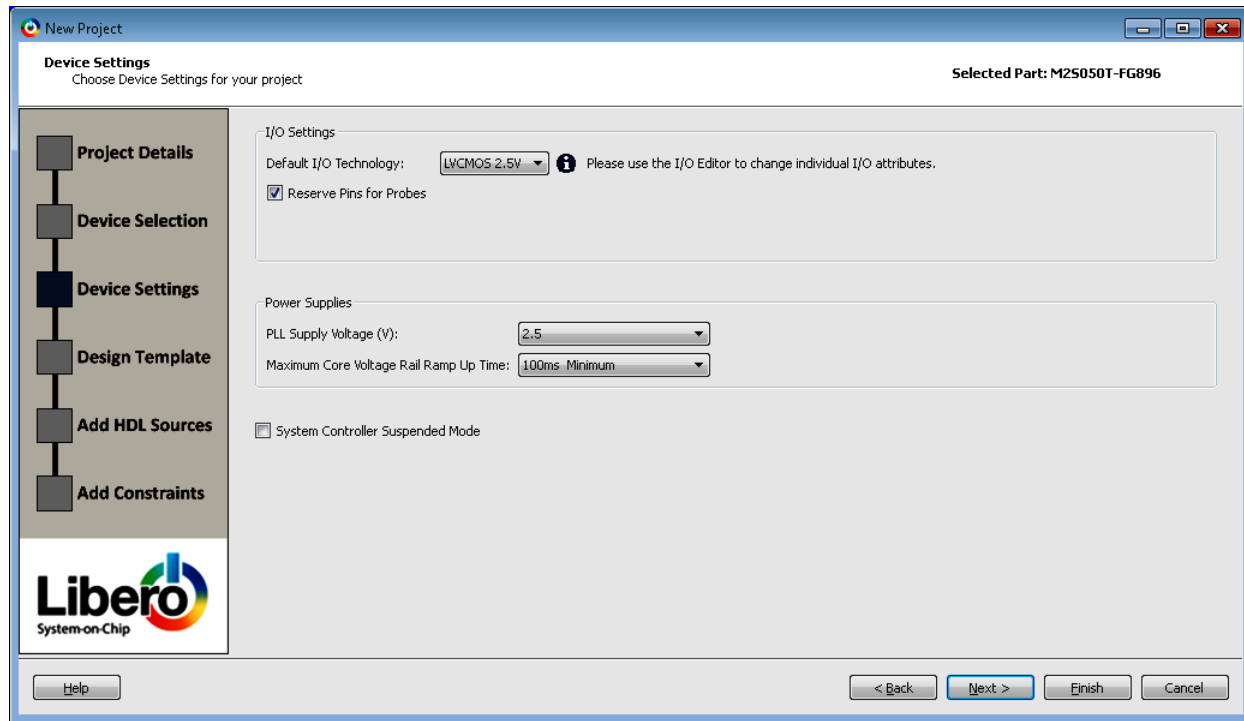

Figure 5 • Device Settings Window
4. Click **Next**. In the **Device Settings** window, select the information displayed in Figure 5 on page 8.
- **PLL Supply Voltage (V):** 2.5